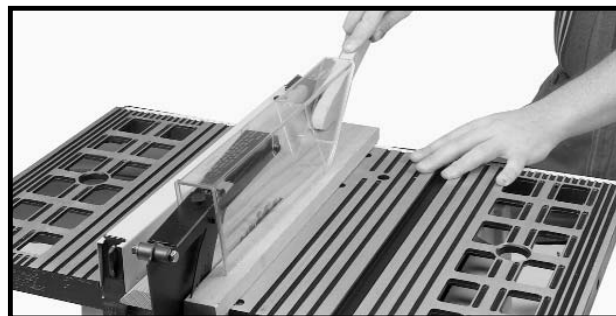

Fig. 44
- If the ripped work is less than 6 inches wide, a push stick should always be used to complete the feed, as shown in Fig. 44. The push stick can easily be made from scrap material as explained in the section “**CONSTRUCTING A PUSH STICK.**”